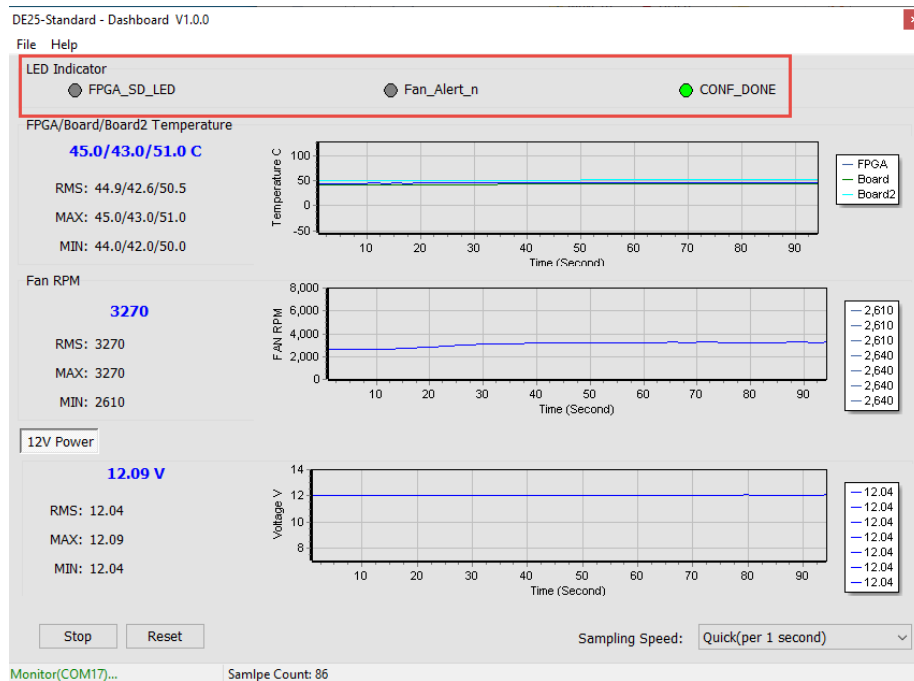

Figure 4-8 FPGA Status section
- **CONF_DONE:** As shown in Figure 4-8, once you press the “Start” button, it will show the status LED number on the DE25-Standard. Please refer to section 2.2 for a description of these LEDs. Note that “CONF_DONE” indicates FPGA configuration is done. There is no LED on the DE25-Standard to display FPGA configuration status. When this status is shown in green on the GUI, it means that FPGA configuration has been completed.